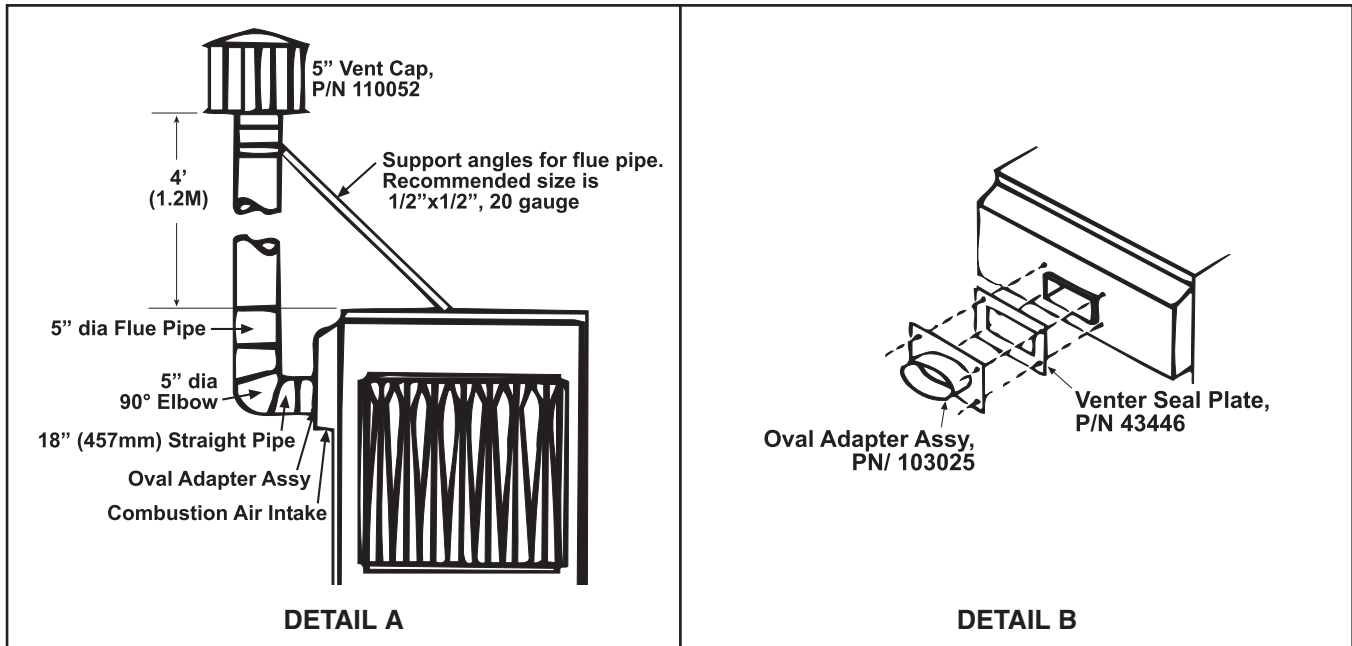

Figure 34. Optional Vertical Flue Discharge
- **Optional vertical flue discharge (option CC3):** These power vented furnaces are certified with 4 feet of vertical pipe connected as shown in Figure 34, DETAIL A. The distance is measured from the top of the unit to the bottom of the vent cap. The vent pipe and supports are field-supplied. Optional vertical vent piping provides compliance with local codes that require either 10-foot horizontal or 4-foot vertical clearance between the flue outlet and the fresh air intake of the heating system and/or building. The option package (PN 45021) includes the 5-inch vent cap, the adapter assembly, and the seal plate as shown in Figure 34, DETAIL B. Remove and discard the louvered discharge grill. Attach venter seal plate and oval adapter assembly with sheet metal screws. Use venter seal plate as drill template.